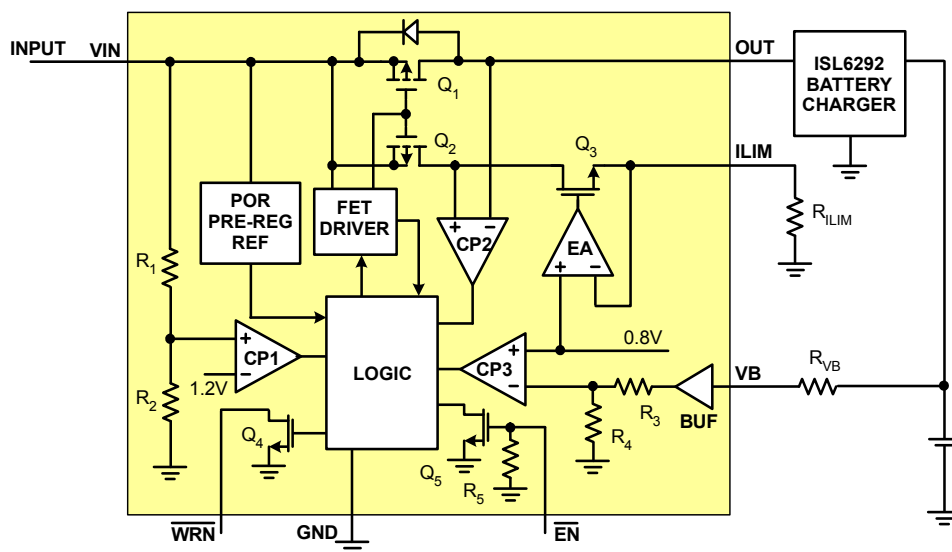
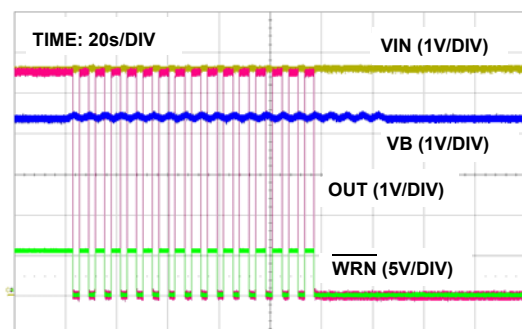

FIGURE 1. BLOCK DIAGRAM
FIGURE 7. BATTERY OVERVOLTAGE PROTECTION. THE IC IS LATCHED OFF AFTER 16 COUNTS OF PROTECTION. VB VOLTAGE VARIES BETWEEN 4.3V TO 4.5V
The input voltage is monitored by the comparator CP1 in the "Block Diagram" on page 3 (Figure 1). CP1 has an accurate reference of 1.2V from the bandgap reference. The OVP threshold is set by the resistive divider consisting of R_1 and R_2 . The protection threshold is set to 5.85V. When the input
The battery voltage OVP is realized with the VB pin. The comparator CP3, as shown in Figure 1, monitors the VB pin and issues an overvoltage signal when the battery voltage exceeds the 4.34V (nominal) battery OVP threshold. The threshold has 30mV built-in hysteresis. The comparator CP3 has a built-in 180μs blanking time to prevent any transient voltage from triggering the OVP. If the OVP situation still exists after the blanking time, the power PFET is turned off. The control logic contains a 4-bit binary counter that if the battery overvoltage event occurs 16 times, the power PFET is turned off permanently, as shown in Figure 7. Recycling the input power or toggling the enable (EN) input will reset the counter and restart the ISL9209C.
The current in the power PFET is limited to prevent charging the battery with an excessive current. The current is sensed using the voltage drop across the power FET after the FET is turned on. The reference of the OCP is generated using a sensing FET (Q_2), as shown in Figure 1. The current in the sensing FET is forced to the value programmed by the ILIM pin. The size of the power FET (Q_1) is 31,250 times the size of the sensing FET. Therefore, when the current in the power FET is 31,250 times the current in the sensing FET, the drain voltage of the power FET falls below that of the sensing FET. The comparator CP2 then outputs a signal to turn off the power FET.